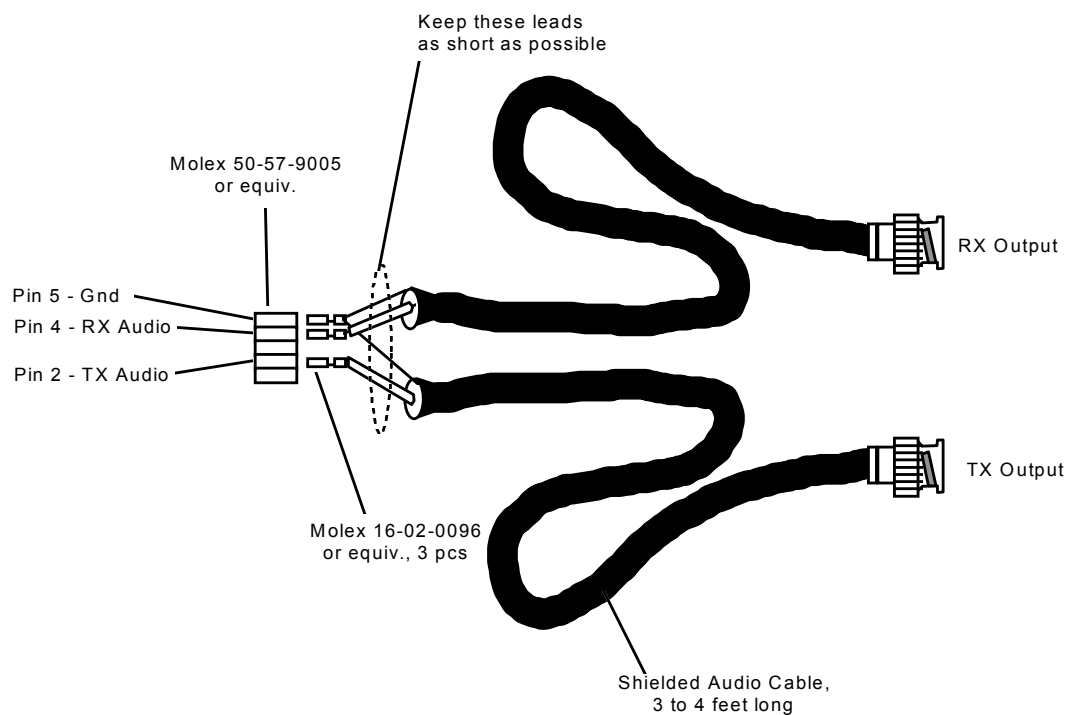

Figure 2-6 - SBU Radio Test Cable
2. Connect a Radio Test Cable to J7 on the SBU Processor Board. Note that Pin 1 on J7 is at the bottom. The Radio Test Cable is constructed as shown in Figure 2-6.